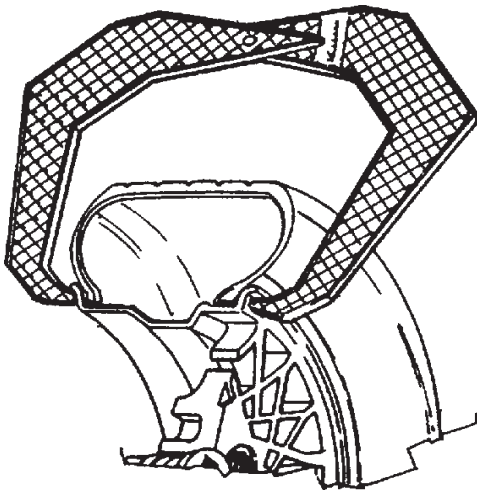

Figure 23
**4.5.2. Measure rim width** using rim width calipers. Measure wheel where corrective clip-on weight would be applied, Figure 23. Enter the measured width by rotating the shaft until the desired value appears in the center display.